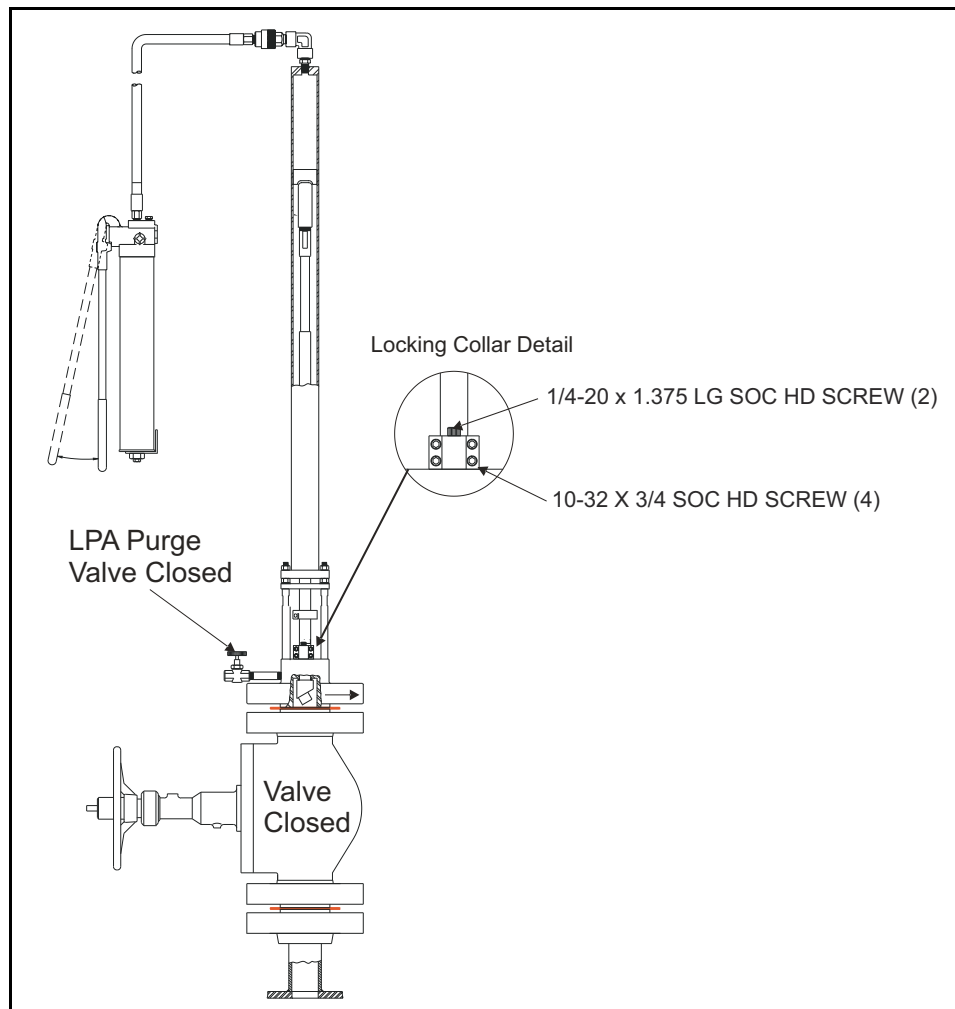

Figure 23: Loosening the Socket Head Screws
3. There are four 10-32 x 3/4 socket head screws and two 1/4-20 x 1 3/8 socket head screws on the locking collar (see *Figure 23* below). Evenly loosen these screws. just enough so that the transducer can move freely.
- Make sure the LPA purge valve (see Figure 23 above) is in the “Closed” position.